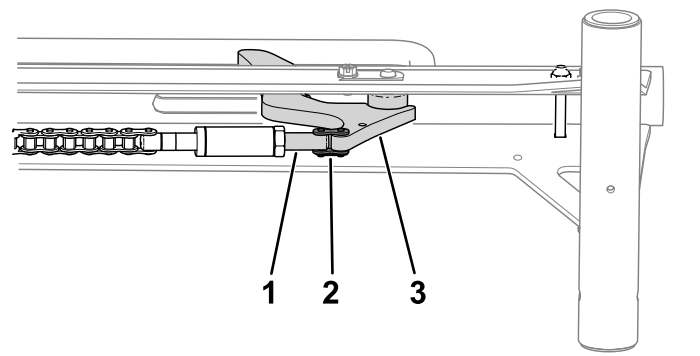

Figure 4
6. Use a chain link to install the chain-link turnbuckle to the wheel stop (Figure 4).